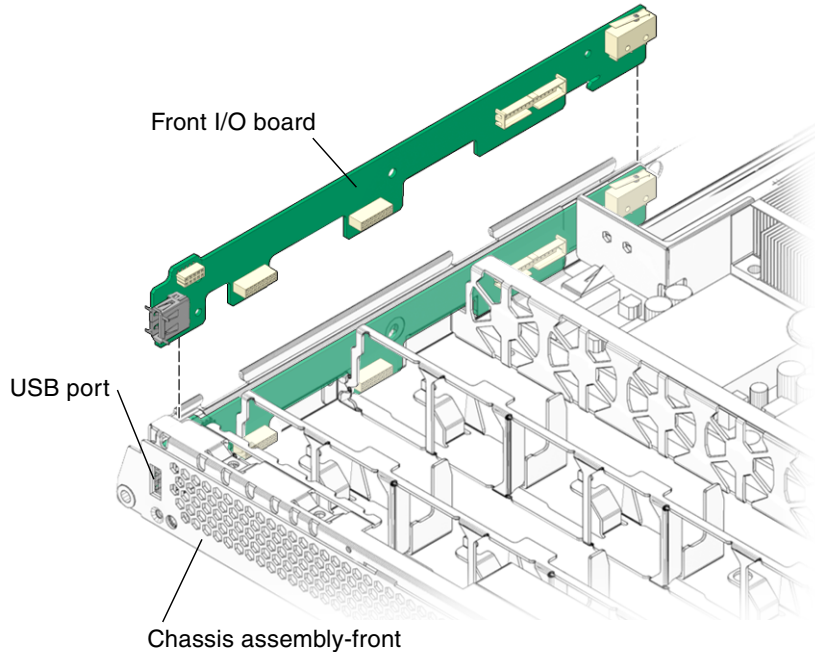

FIGURE 3-30 Removing the Front I/O Board
10. Remove the front I/O board (FIGURE 3-30).
2. Tip the front I/O board downwards and slightly forward and push it into place, aligning the board with the chassis (FIGURE 3-30).